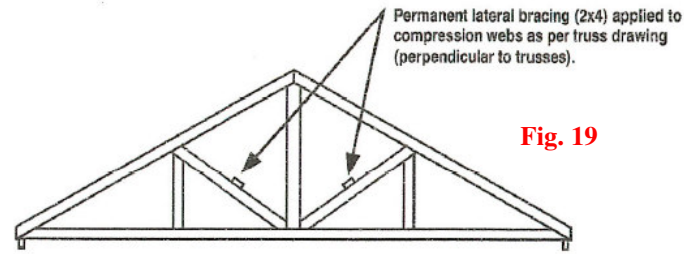

Fig. 19
A) All permanent lateral bracing shown on sealed truss design drawings must be of the size and grade specified and must be fastened at the locations shown using the number and size of nail as specified on the truss design drawings. Example shown in Fig. 19.